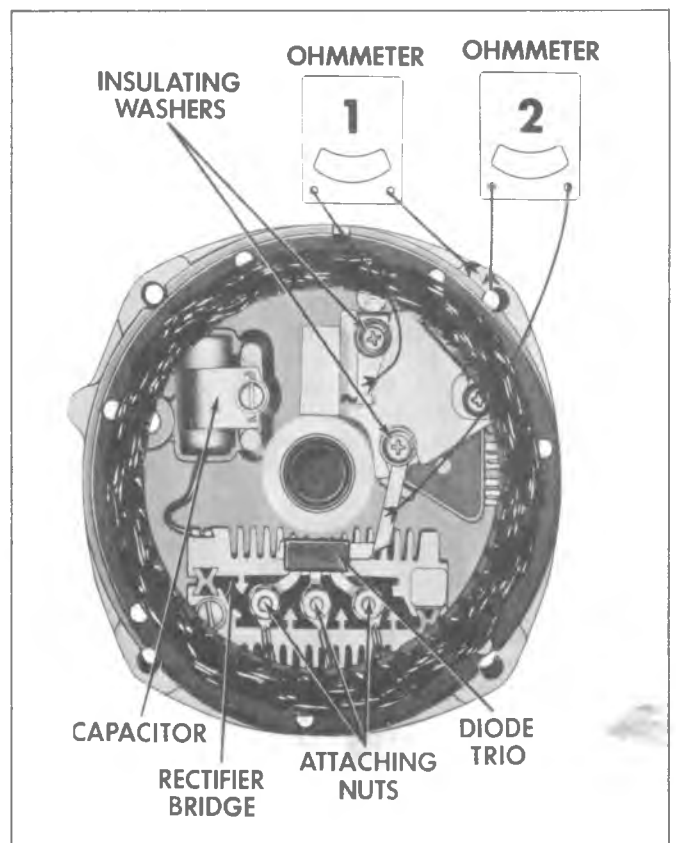

Fig. 5d—Slip Ring End Frame
- b. Connect ohmmeter using lowest range scale from brush lead clip to end frame as shown in Step 1, Figure 5D, then reverse lead connections.